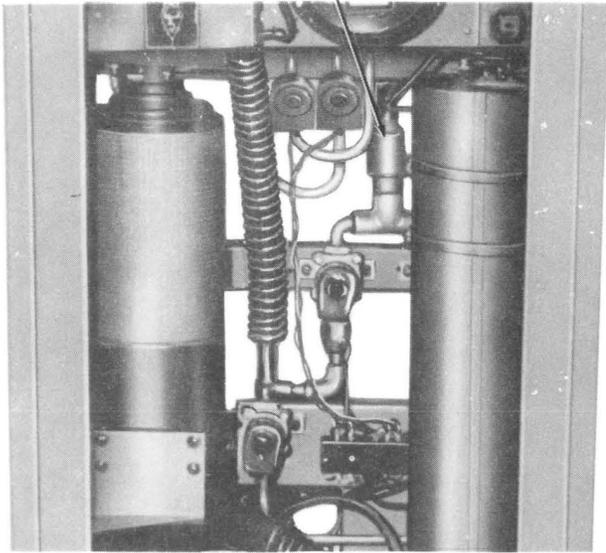

Fig. 13—Refrigerator and Evaporator for Assembly Removal
(10) Carefully raise the heat exchanger until the flared O-ring fitting is clear of the Tee fitting leading to the solenoid valve assembly (Fig. 13).